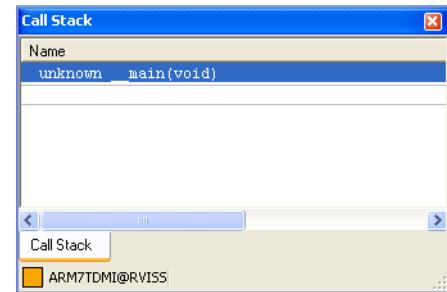

Figure 13-46 Call Stack view
1. Select **Call Stack** from the **View** menu to display the Call Stack view. Figure 13-46 shows an example: